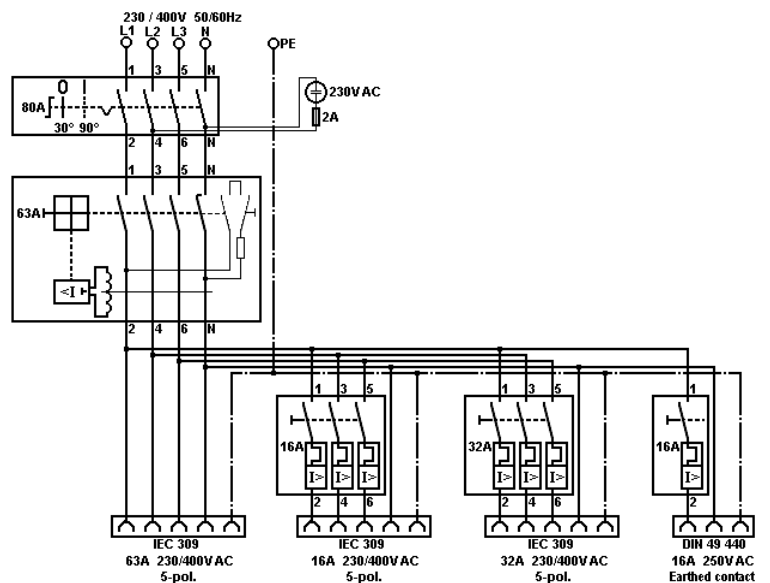

Fig. 1
*The safety switch of the maintenance and repair supply socket distribution shall be safeguarded against unauthorized use by means of a padlock (padlock shackle Ø = 4-6 mm, see page 10, Fig. 1).*
**The safety switch of the maintenance and repair supply socket distribution shall be safeguarded against unauthorized use by means of a padlock (padlock shackle  $\varnothing = 4-6$  mm, Fig. 1).**
The CEE flange sockets a padlock (shackle  $\varnothing = 5$ mm) can be fitted to the bayonet ring (see Fig 1, page 10) as an additional safeguard against unauthorized use.
To prevent unauthorized switching, the switch can be locked in the "OFF" position by means of 3 padlocks, see Fig. 1 (shackle diameter of padlocks 4-6 mm).